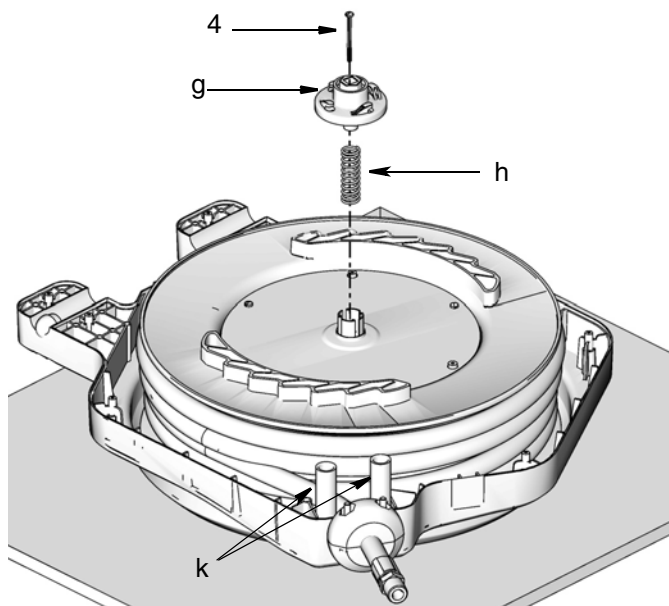

FIG. 11
8. Remove bolt (4), spring adjuster (g) and spring (h) (FIG. 11). Do not discard parts (g) and (h), you will need them for reassembly. A new bolt (4) is included in the swivel kit.